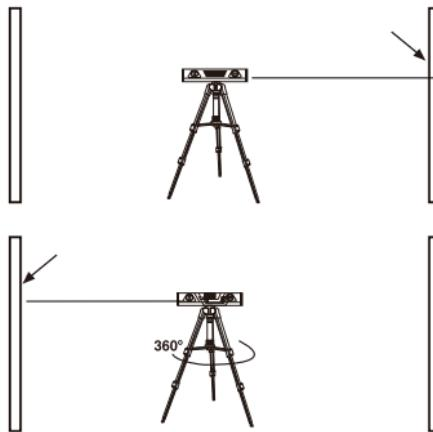

Fig.13
- The laser projects a dot on the targeted surface (see Fig. 13) and the size and shape may vary according to temperature, distance and target surface material. **ALWAYS** use the center point of the dot for your measurement. Rotate the level on the tripod to align chair rail, pictures, etc. 360° around the space.